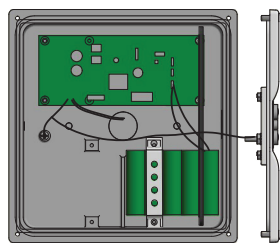

Figure 3
9. Light distribution can be changed by using a different lens. See page 3 and Figures 3, 4 and 5.